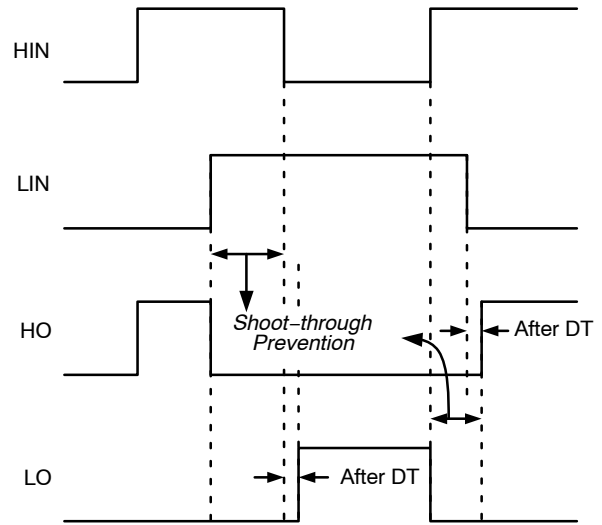
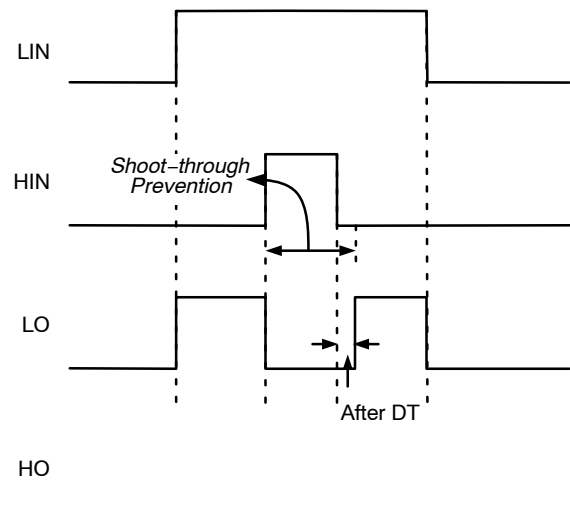

Figure 45. Example Waveforms for Shoot-through Prevention
Figure 46. Example waveforms for Shoot-through Prevention
As shown in Figure 45, if the low-side input (LIN) signal is provided to the driver while the high-side input (HIN) signal is already present, the high side output (HO) is turned off immediately while the low-side output (LO) is kept turned off. In addition, both driver outputs are kept turned off for as long as both HIN and LIN are present. This prevents the shoot-through of the high-side and low-side devices in an application. Similarly, as shown in Figure 46, if HIN signal is provided to the driver while LIN signal is already present, LO is turned off immediately while HO is kept turned off.